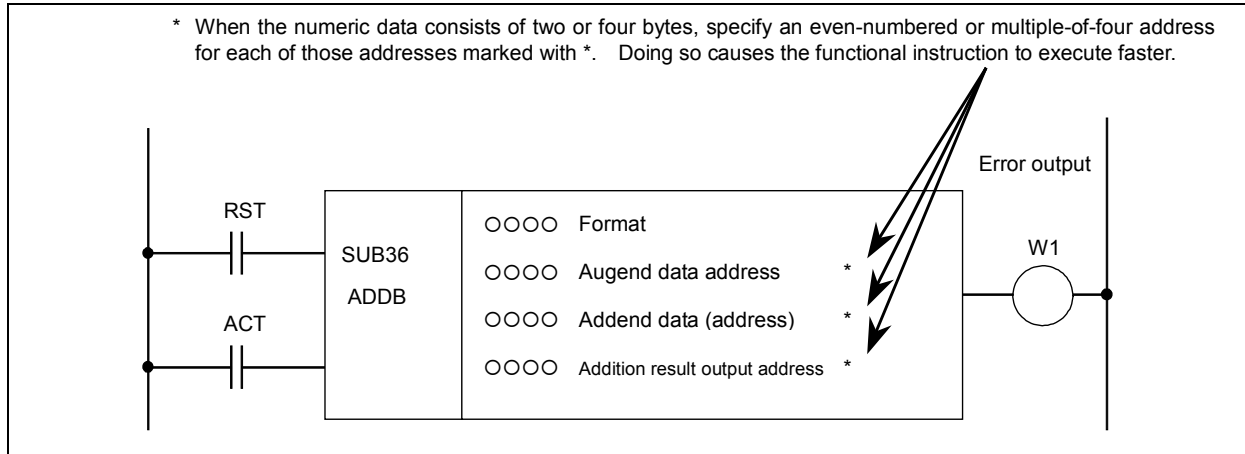

Fig. 4.2.1 (b)
(9) Functional instruction operation result register (R9000 to R9005, Z0 to Z5) (See Fig. 4.2.1 (c).)